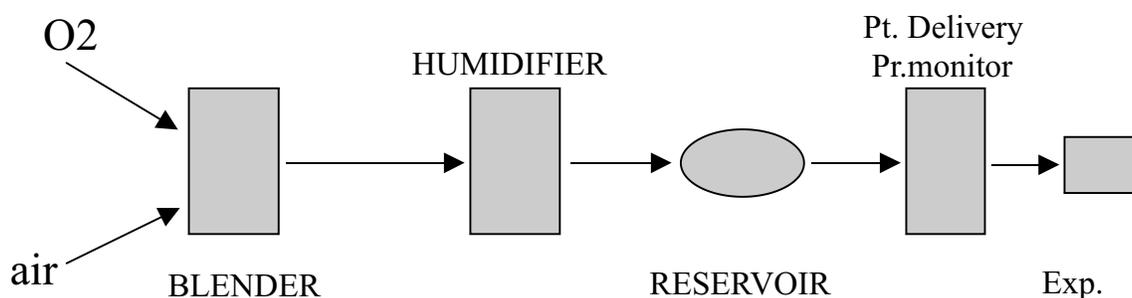

Figure 1: CPAP System
- Means of creating a positive pressure in the CPAP circuit. (Fig. 1)